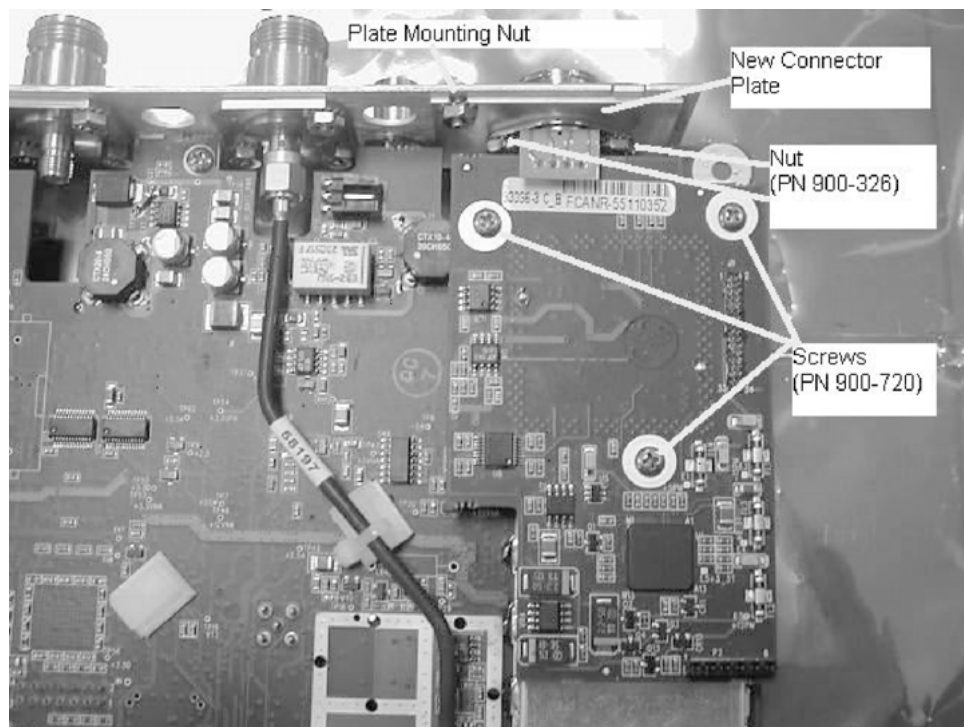

Figure 4-9. Power Monitor PCB Assembly Replacement
8. Install the Option 5 PCB assembly (PN 63066-3) to the main board. Carefully align J1 to J6 of the main board when installing. Refer to Figure 4-9.